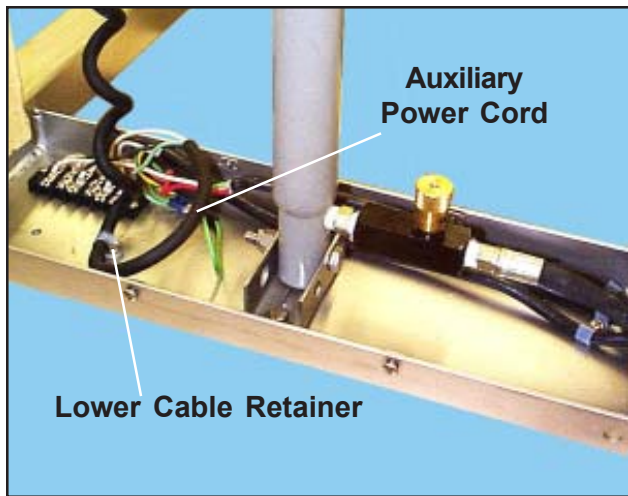

Figure 56. Lower Cable Retainer
8. With a Phillips screwdriver, remove the lower cable retainer and free the auxiliary power cord (Figure 56).
6. Mount the lower cable retainer into the tray (Figure 56).